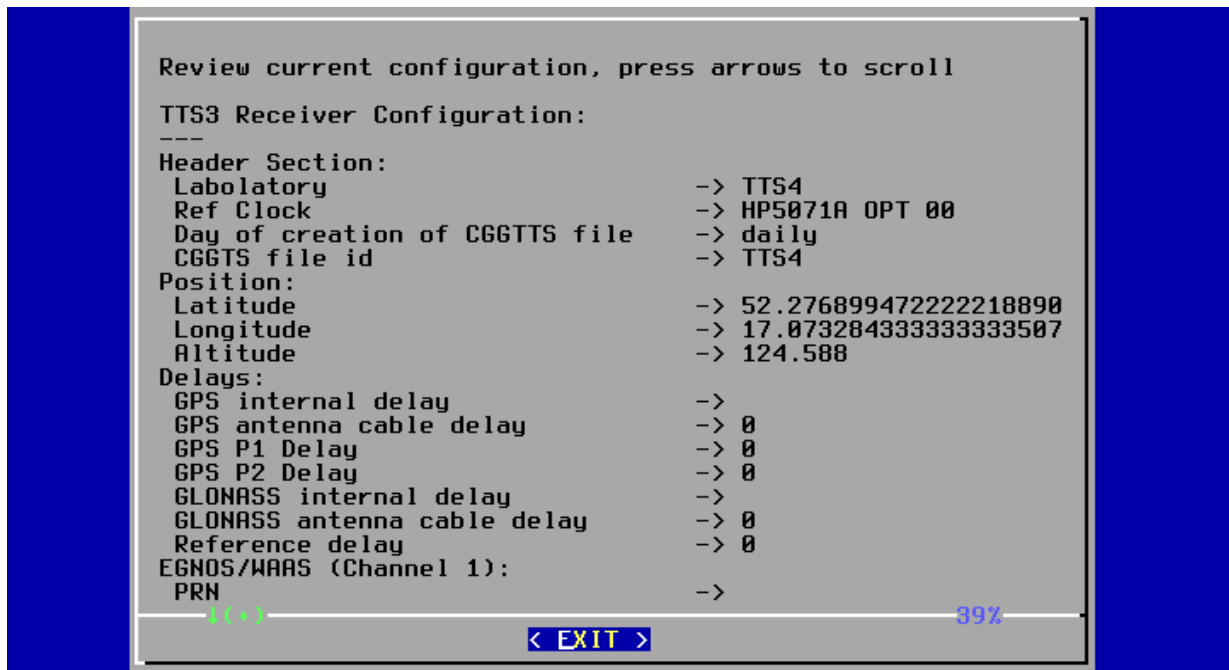

Figure 32: Receiver configuration saving.
3. select Save Setup (fig. 32)